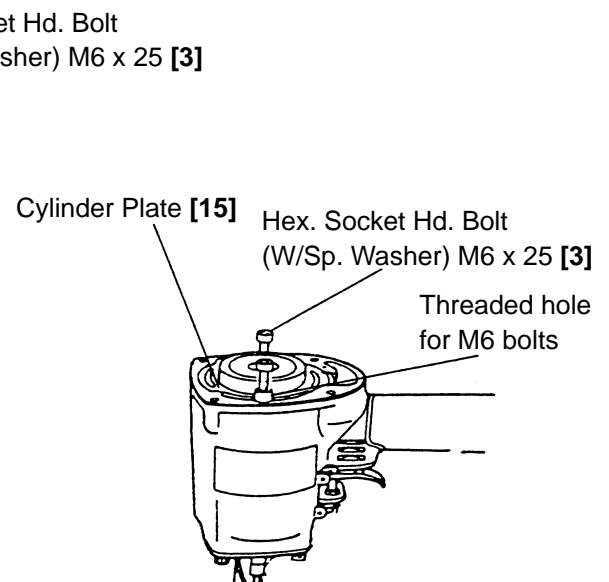

Fig. 9
- Next, as illustrated in Fig. 9, screw two of the previously removed Hex. Socket Hd. Bolts (W/Sp. Washer) M6 x 25 [3] into the provided holes on the Cylinder Plate [15].